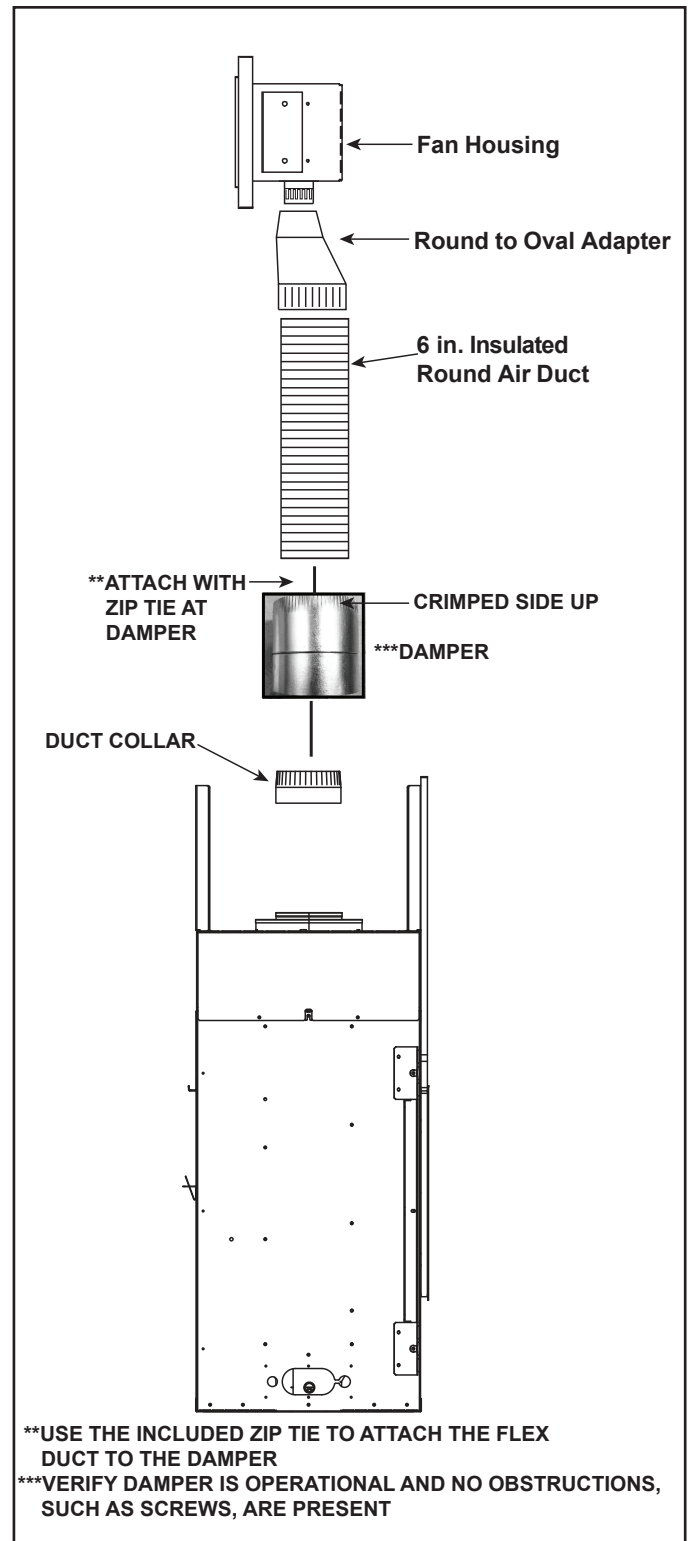

Figure 4 Assemble the Heat-Zone®-Gas Components
- Center the duct collar, included with the Heat-Zone-Gas kit, around the open hole and attach it to the appliance with 3 screws included in the Heat-Zone®-Gas kit. See Figure 4.
- Attach damper to the Heat-Zone-Gas duct collar with three screws. Install damper with the crimped side up. See Figure 4.
- Attach six inch duct to the damper using a zip tie. See Figure 4.